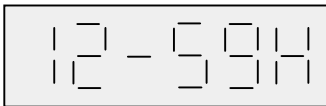

Figure 40
**3 - POWER SUPPLY** (LED 7 - figure 40)
**4 - MODE** (LED 8 - figure 40)
**5 - FILTER DIRTY** (LED 3 - figure 40)
**6 - GENERAL FAULT** (LED 9 - figure 40)